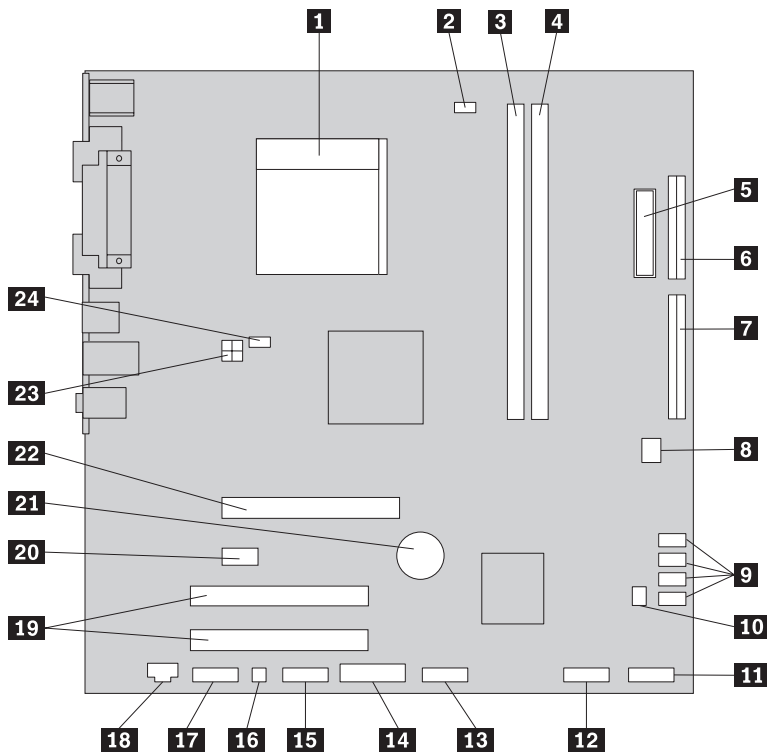

Figure 4. System board parts locations
Figure 4 shows the locations of parts on the system board.
4. Locate the memory connectors. See Figure 4 on page 8.